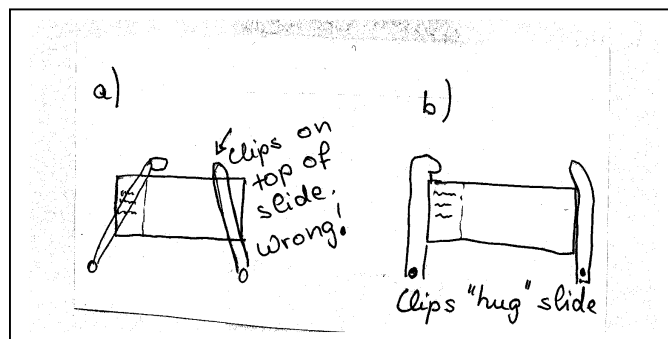

Fig. 4: a) wrong b) correct position of slide and stage clips
3. Obtain a prepared microscope slide with the letter e. Place the slide on the stage and ensure that it is locked in place with the slide holder (Figure 4 below)